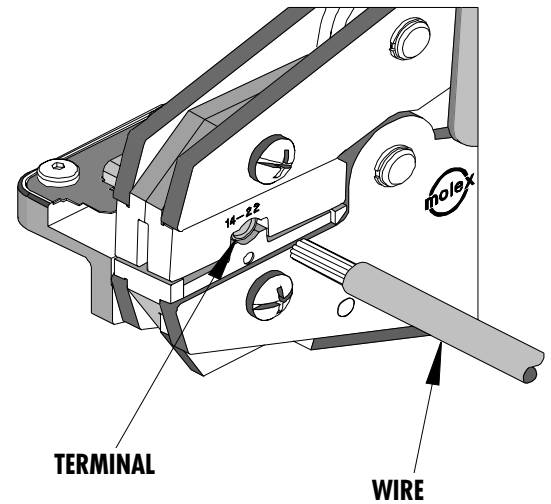

Figure 2
3. Partially close the tool to hold the terminal in place (See Figure 2).
4. Insert the properly stripped wire into the terminal barrel (See Figure 2 and 3). The wire's end should butt against the wire stop stamped into each terminal. Cycle the tool.